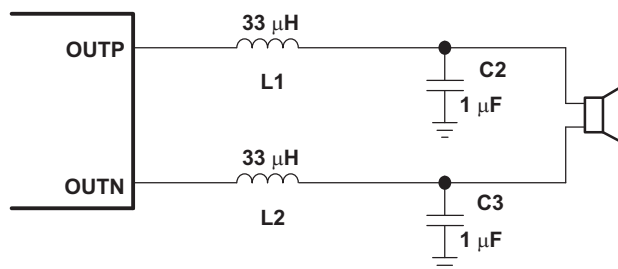
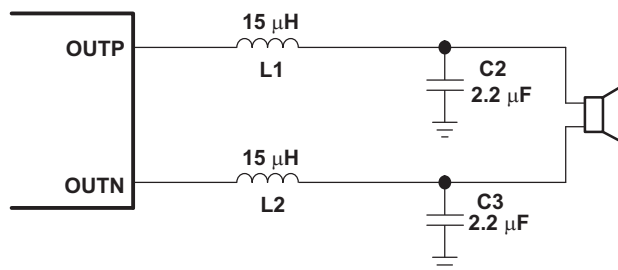

Figure 41. Typical LC Output Filter, Cutoff Frequency of 27 kHz, Speaker Impedance = 8 Ω
Figure 42. Typical LC Output Filter, Cutoff Frequency of 27 kHz, Speaker Impedance = 4 Ω
- **Output filter**—The ferrite EMI filter (Figure 43) should be placed as close to the output terminals as possible for the best EMI performance. The LC filter (Figure 41 and Figure 42) should be placed close to the outputs. The capacitors used in both the ferrite and LC filters should be grounded to power ground.